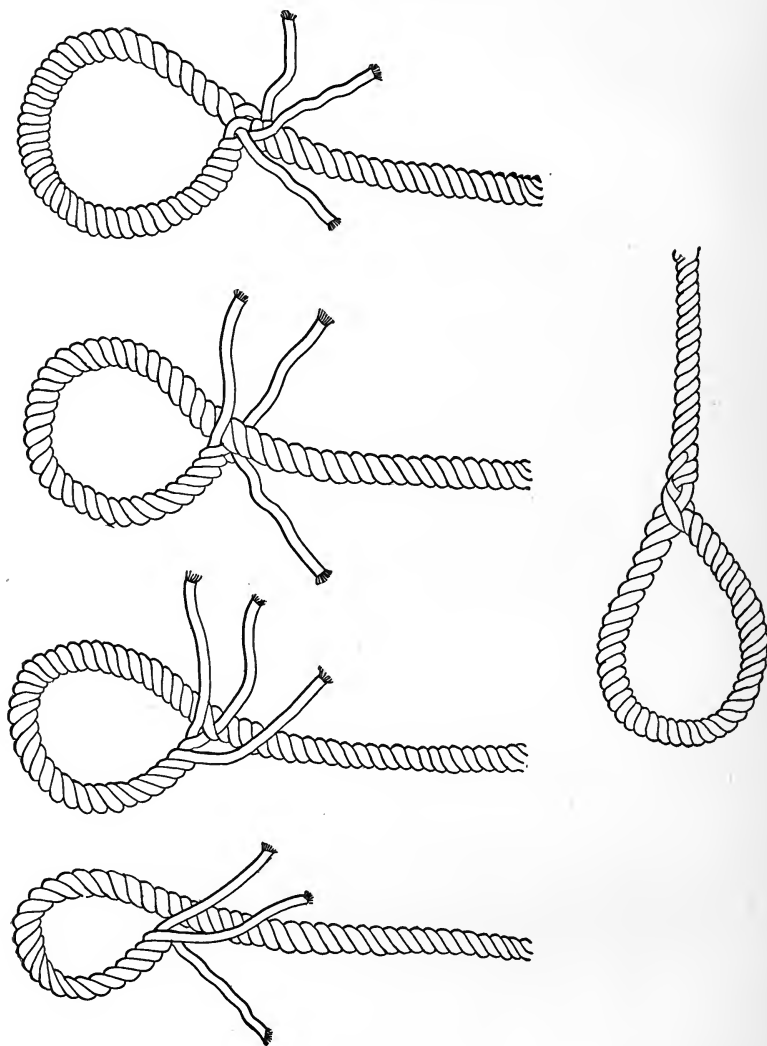

FIG. 48.
A. Unlay the end of the rope for a short distance and lay the three strands upon the standing part, so as to form an eye. Put the first end through the strand next to it. Put the second end over the strand and through the second, and then put the remaining end through the third strand on the other side of the rope. Taper them as in the short splice by dividing the strands and sticking them again. The eye-splice is used to form a permanent loop in the end of a rope. (See Fig. 48.)